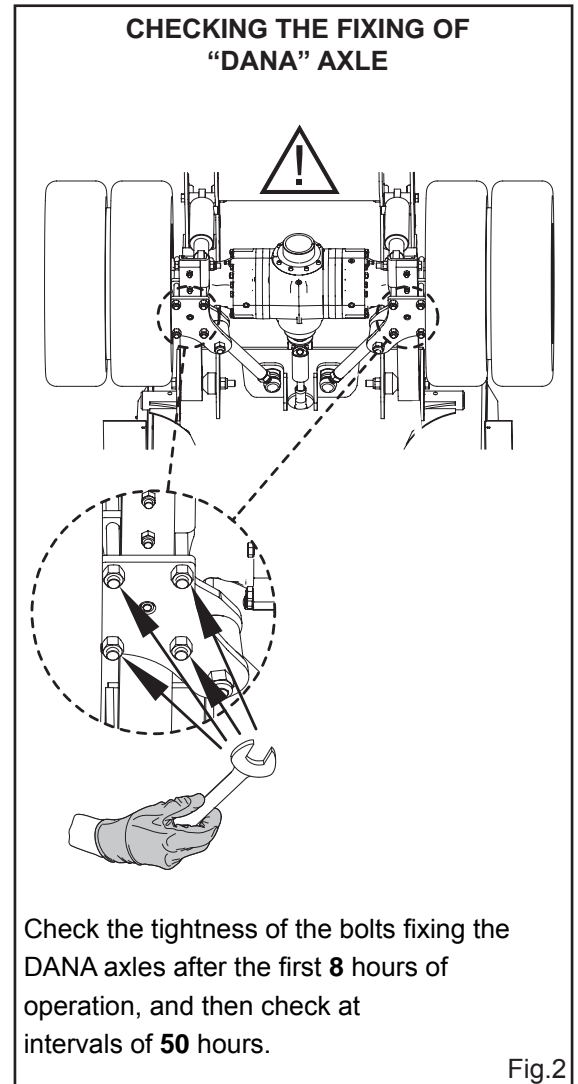

Fig.2
Screw in the screws (31) until they are up against the pressure plate (fig.2)